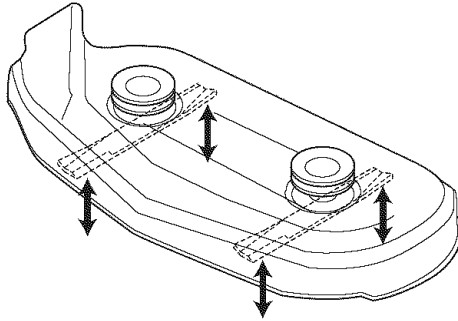

Figure 36. Orient Blades Front-to-Back
1. Turn the blades front-to-back as shown in Figure 36. Measure the distance from the ground to front tip of center blade, and from ground to rear tips of left hand and right hand blades (Figures 36). Front tips should be 1/8"-1/4" (3-6 mm) higher than rear tips. If not, proceed to step 2.